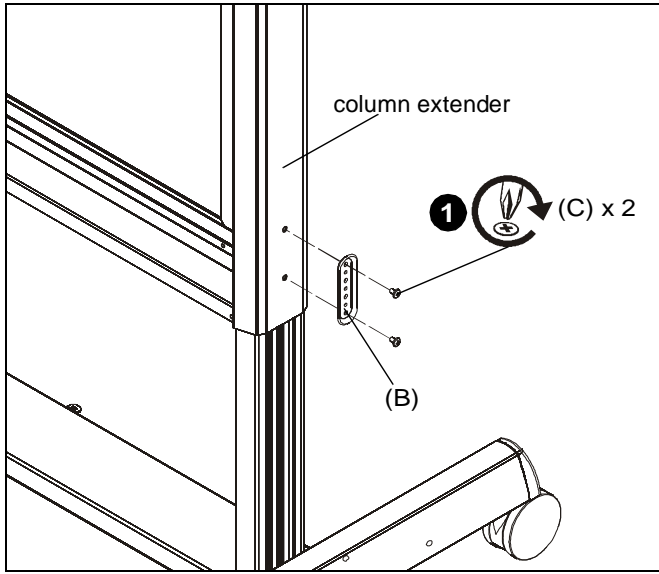

Figure 1
1. Use two 1/4-20 x 3/8" Phillips head machine screws (C) to secure attachment bracket (B) to rear projection cart. Use two holes on outside of either column extender of cart. (See Figure 1)